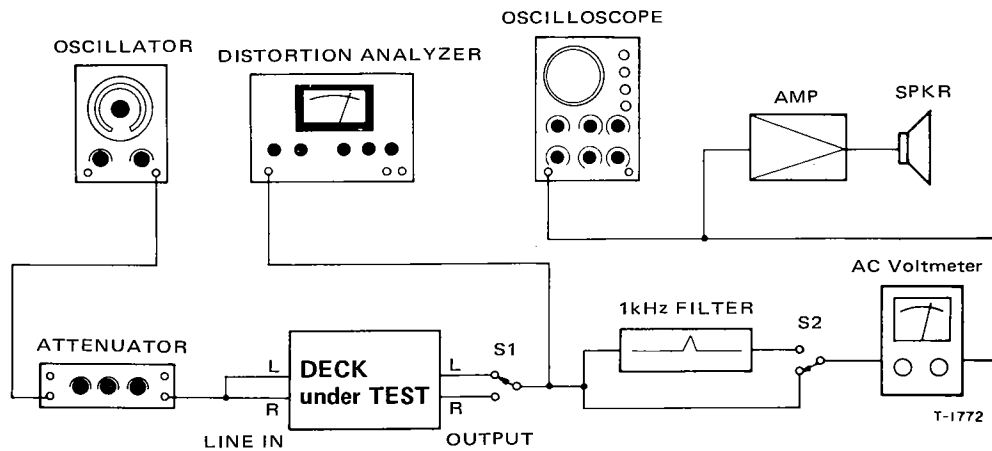

Fig. 5-1 Basic test setup
18. Erase efficiency	<ul style="list-style-type: none"> • Connection is same as in Fig. 5-1, but engage 1-kHz filter. • Record a 1-kHz signal. Rewind tape to midpoint of recorded portion. Record a "no signal" portion. Find the difference between the 1-kHz portion and the "no-signal" portion.
19. REC MUTE function	<ul style="list-style-type: none"> • Connection: Fig. 5-1, but engage 1-kHz filter. • Record a 1-kHz signal. Push REC MUTE button for several seconds. Rewind and play the tape. Find the difference between the 1-kHz portion and the "no-signal" portion.
20. Channel separation	<ul style="list-style-type: none"> • Connection: Fig. 5-1, but do not connect LINE IN (R), and engage 1-kHz filter. • Set the deck to record mode. Find the difference between the 1-kHz recorded portion (L-ch) and the "no signal" portion (R-ch).
21. Adjacent track crosstalk	<ul style="list-style-type: none"> • Connection: Fig. 5-1, but do not connect LINE IN (L) and OUTPUT (L). • Record a 125-Hz signal on R-ch and note output level. Invert tape and play R-ch track. Check leakage level against the output reference of previously recorded portion.